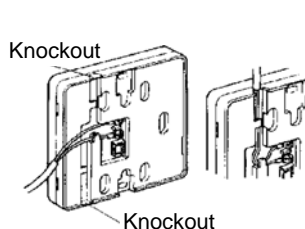

Fig. 3
- Connect the cable to the kitchen remote control as shown in Fig 3. At this point cables from other controllers (if fitted) may also be connected to the kitchen remote terminals eliminating the need to have multiple cable runs directly to the hot water heater, controllers are not polarity sensitive.
If the cable cannot be run in the wall cavity, remove the plastic 'knockout' lugs as shown in Fig. 3.